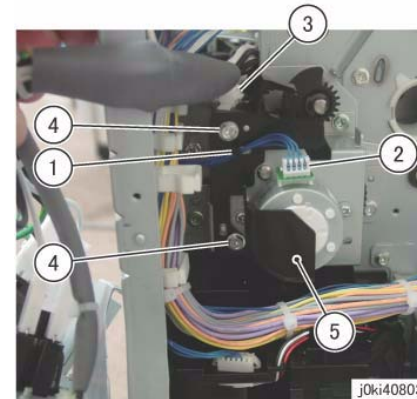

Figure 2 Remove the Harness Holder
6. Remove the Harness Holder. (Figure 2)